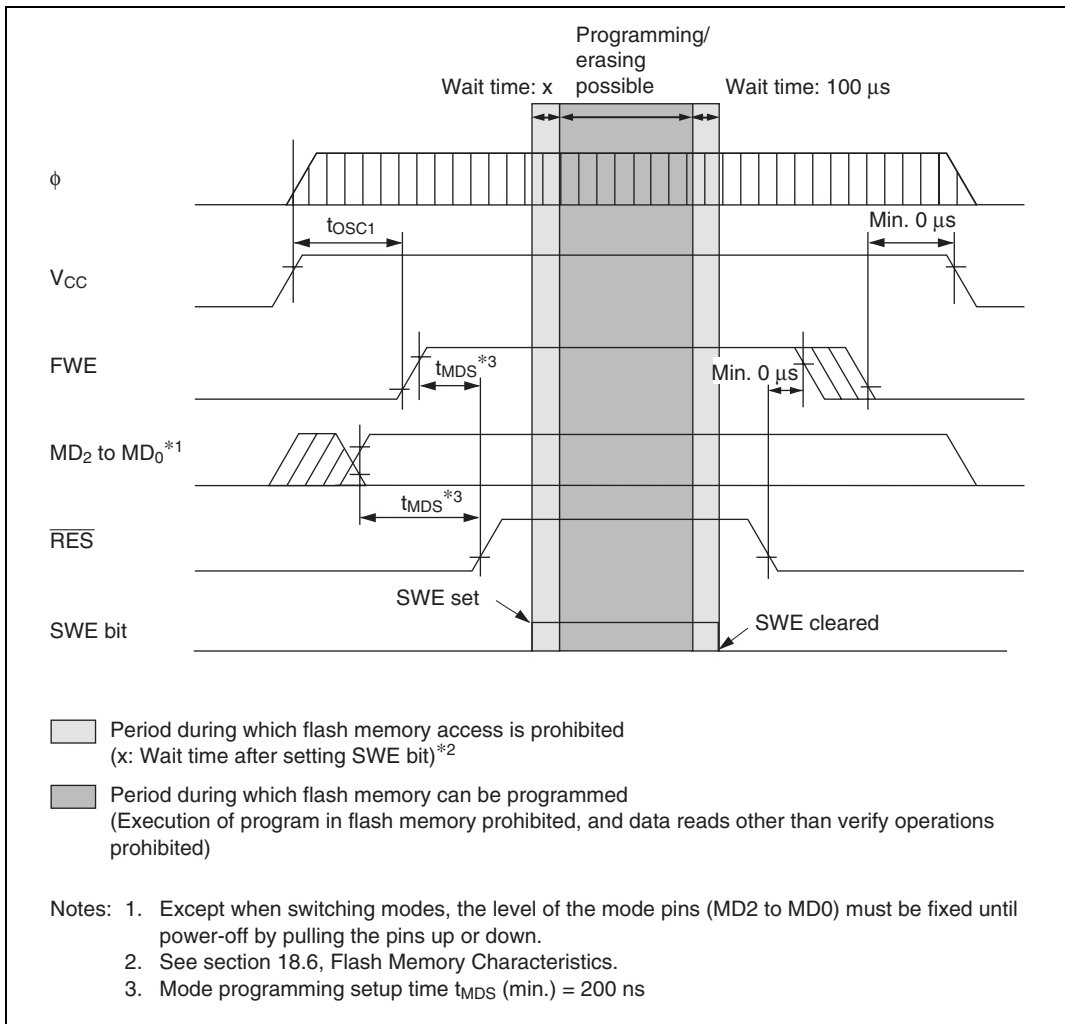

Figure 15.29 Power-On/Off Timing (Boot Mode)
(2) Powering on and off (See figures 15.29 to 15.31)
(3) FWE application/disconnection (See figures 15.29 to 15.31)